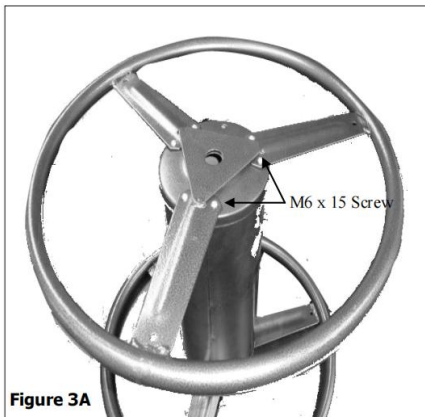

Figure 3A
3. Attach hose reel end to the center hub using (6) M6 x 15 screws. repeat opposite side. See figure 3A.